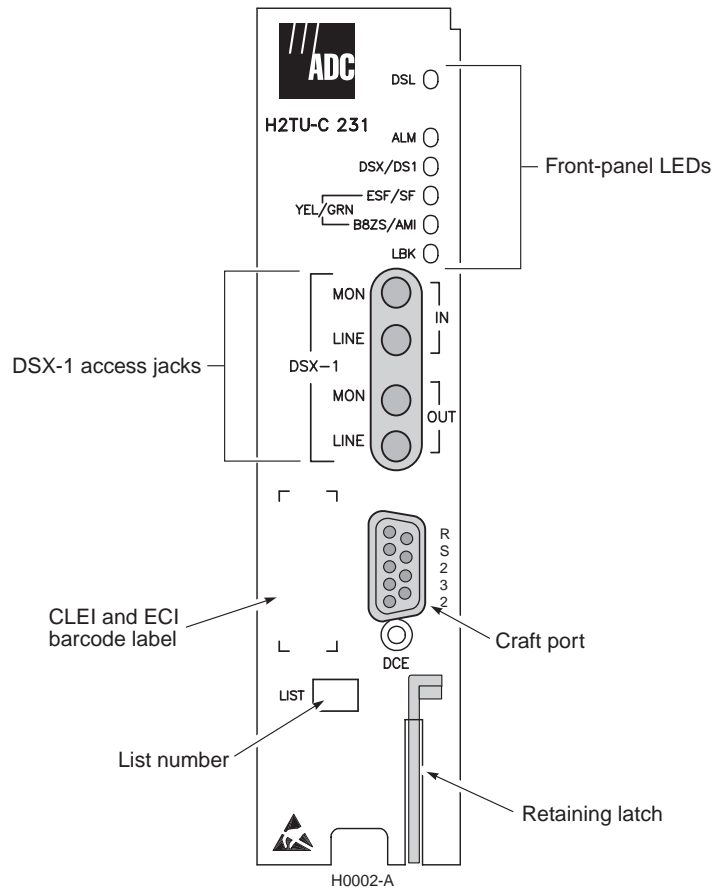

Figure 1. H2TU-C Front Panel
Figure 1 shows the H2TU-C front panel. Table 2 on page 5 describes the front-panel components. For pinout diagrams of the H2TU-C card-edge connector and craft port, refer to “Appendix A - Specifications” on page 51.
- 1 Connect a standard 9-pin terminal cable to the RS-232 craft port on the H2TU-C front panel (Figure 1 on page 3).